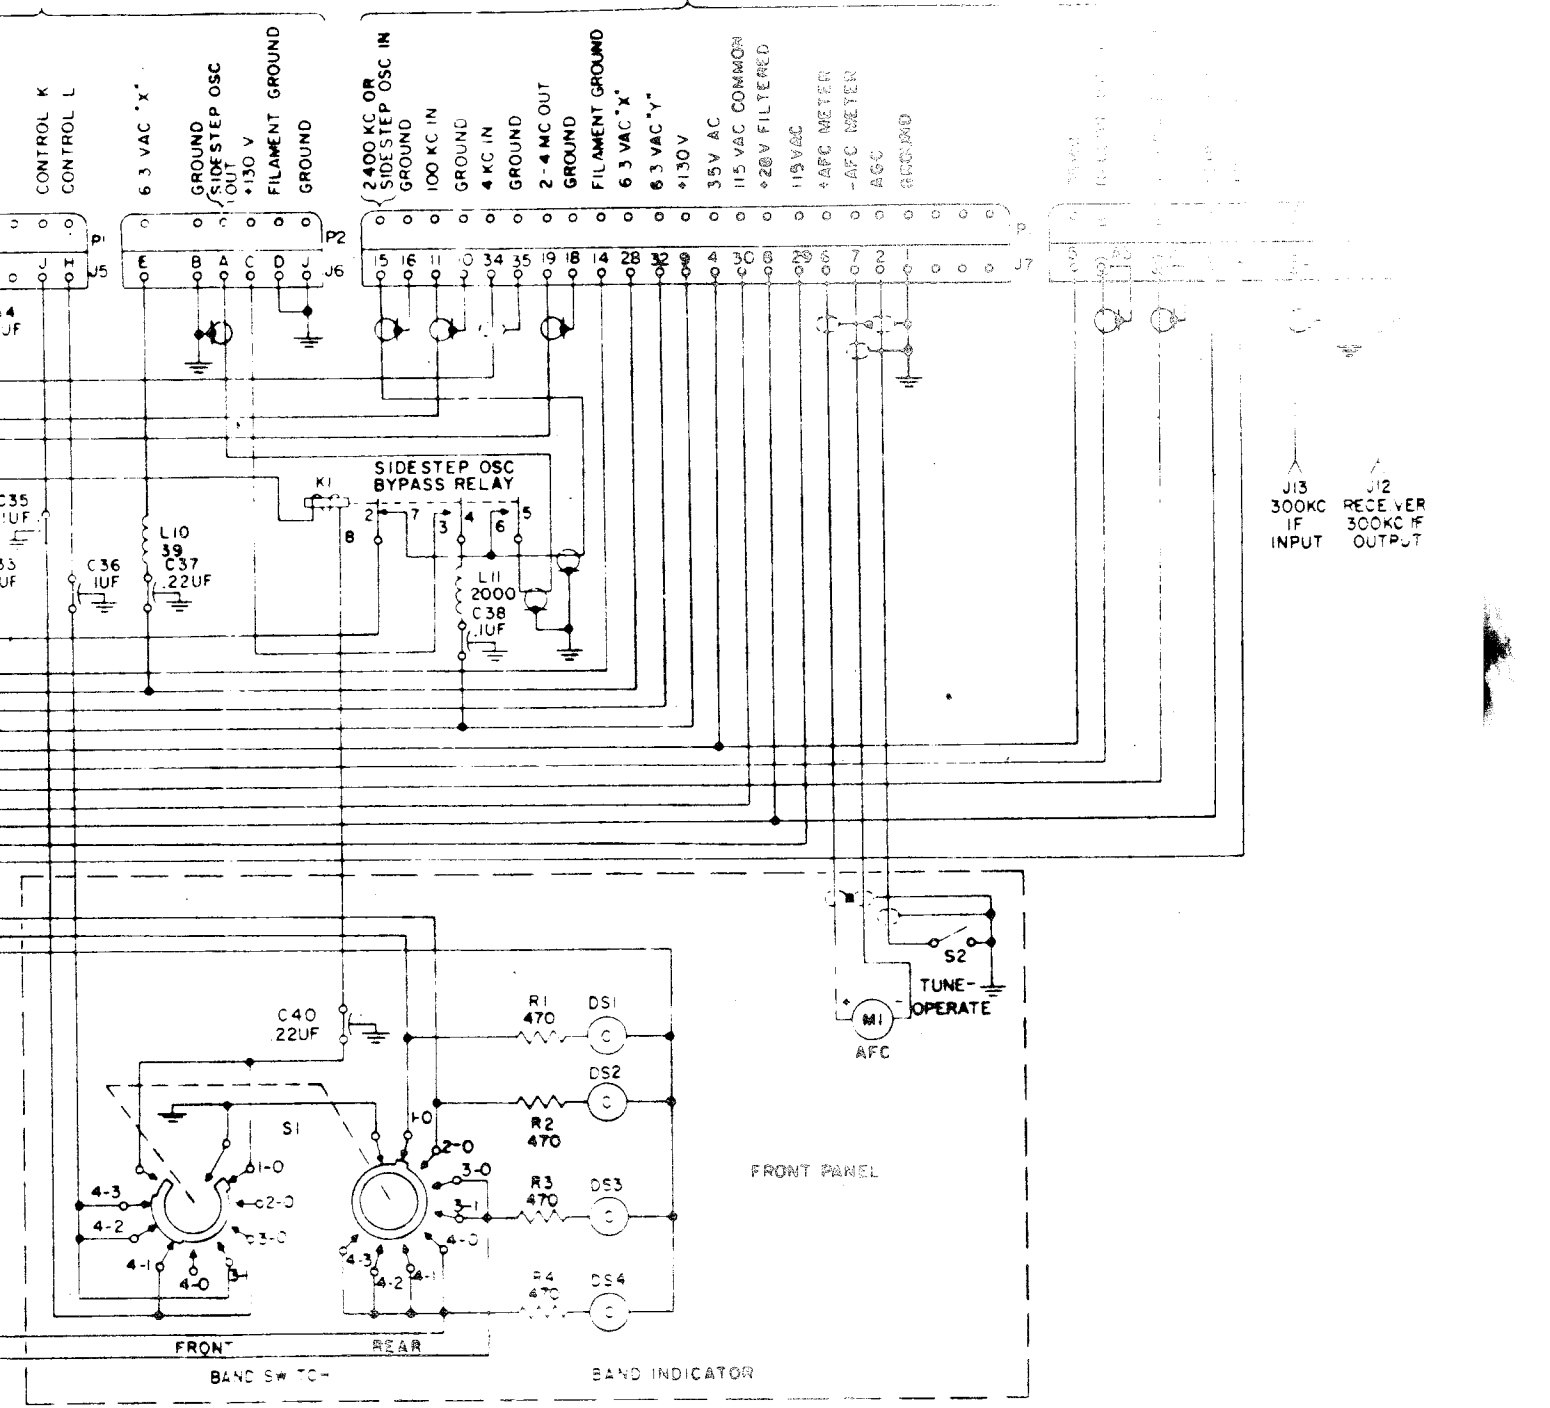

FIGURE 7 - CONVERTED FROM FIGURE 1
4. Figure 6 is a schematic of CV-1749()/UR. Figure 7 is a schematic of CV-731()/URC after this field change has been completed.